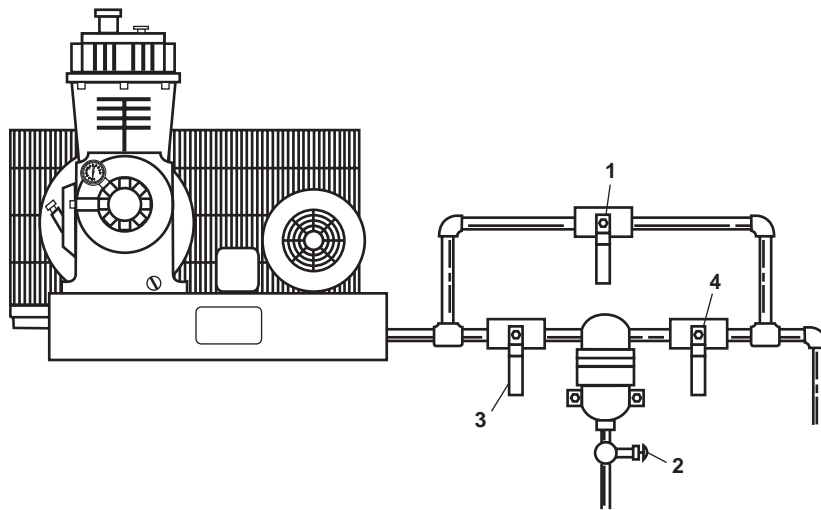

Figure 2. Dryer Valve Locations
2. CLOSE valves CA-89 and CA-90, COV-COMPR DISCH (figure 2, item 1) and CA-93 and CA-94, MOISTURE SEPR (figure 2, item 2).
3. OPEN valves CA-1 and CA-2, COV-COMPR DISCH (figure 2, item 3) and CA-87 and CA-88, COV-COMPR DISCH (figure 2, item 4).